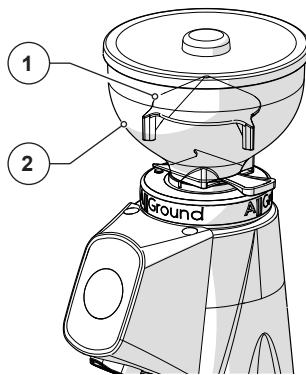

Fig. 3
- **Anti-intrusion device on the coffee supply hopper (Fig. 3)**